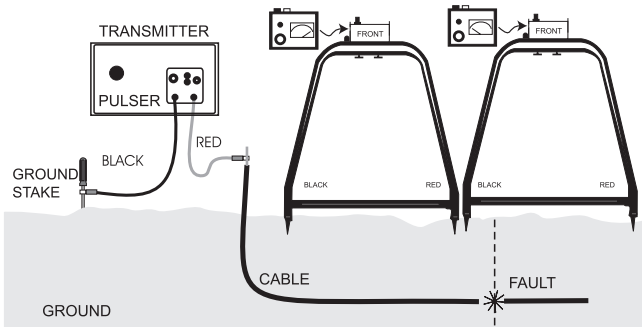
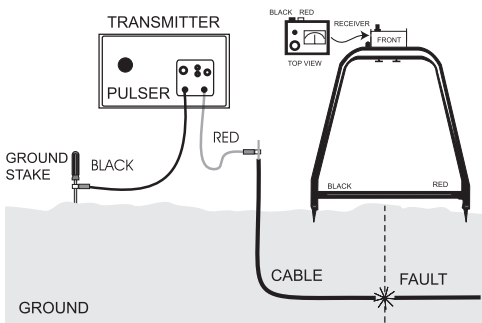

Figure 3.
Figure 4. Nulling Receiver - First Time
5. Turn the receiver on. Verify the battery condition by pressing the battery test button and observing the meter. Insert the "A" Frame probes into the earth. (See Figure 3.) If all probes are making good ground connection, the receiver will kick toward the the fault (away from the transmitter) in step with the transmitter beeper.
7. While probing the path, a reversal in the receiver meter, a "black" kick, will be observed when the fault is passed. To determine the exact location, move the "A" Frame in the direction of the black kick until the kick reverses to red. (See Figure 3.) Now move the "A" Frame in small increments back to the red kick until it reverses to a black kick or it nulls. (See Figure 4.)
*Note: Receiver will null when probes evenly straddle the fault. Mark this spot. (See Figures 4 and 5.)*